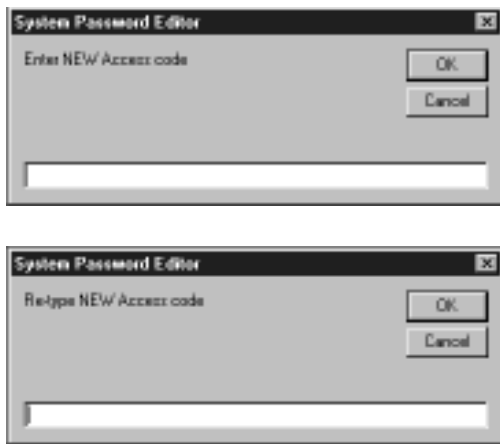

Figure 20: System Password Editor
6. Refer to *Figure 20* for the **SYSTEM PASSWORD EDITOR** menu that will appear.